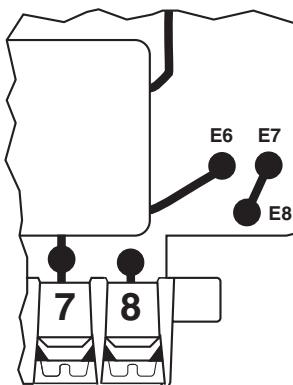

Figure 15:
1. Soldered the appropriate jumper, to change between the NO and NC mode for an “alarms disabled” remote indication (terminals 7 and 8). See **Figure 15**.